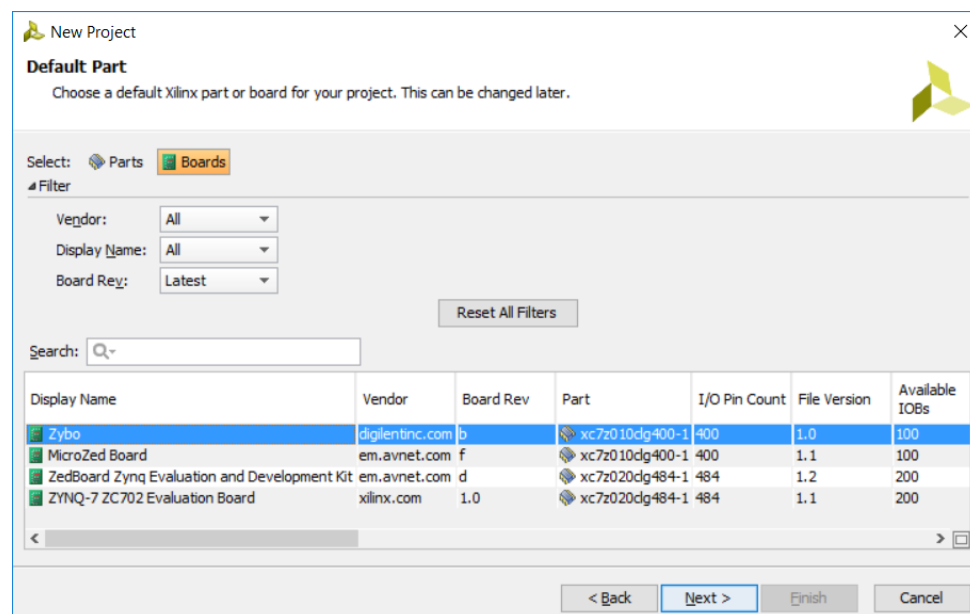

Figure 2.3: Default part dialogue options
- (i) From the *Default Part* dialogue, select **Boards** from the *Specify* box and choose **Zybo Zynq Evaluation and Development Kit**, Board Version **c** from the list of boards, as shown in Figure 2.3.